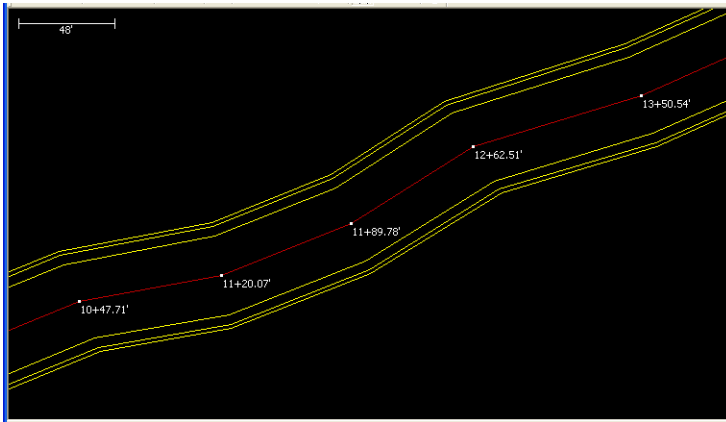

Figure 6-21. Alignment with Templates
3. Press **OK** on the *Road template placement* dialog box to place the template and view the result on the Plan View (Figure 6-21 on page 6-14). If needed, set view options to view template information (see “Setting View Options” on page 6-41 for details).